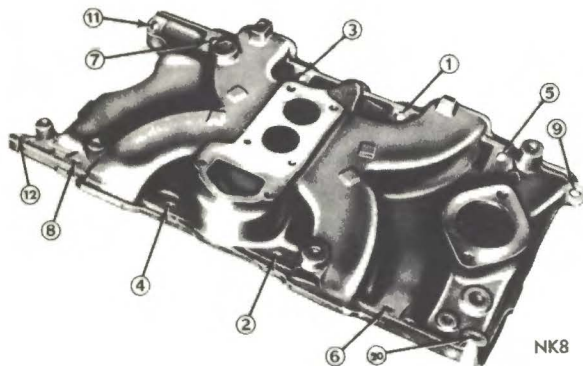

Fig. 3 Intake Manifold Tightening Sequence
(8) Position the intake manifold on the engine and install the twelve attaching cap screws "Finger Tight" in the tightening sequence shown in Figure 3. Tighten the cap screws one through four to 60 lbs/in and tighten the remaining cap screws to 60